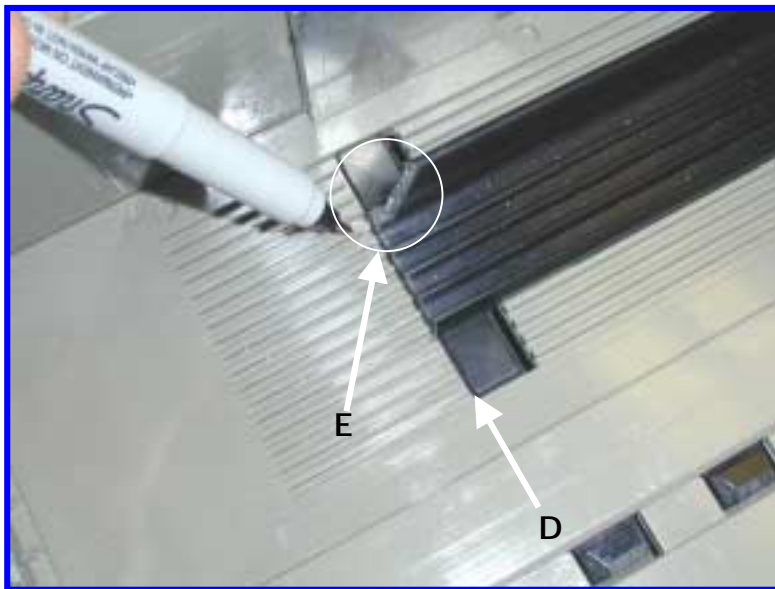

Figure 4
Trim **both** bottom currency guides flush with the front edge of the rubber locking pads (D) Figure 4.
Trim the left, bottom currency guide at a 45° angle (E) Figure 4 as shown.